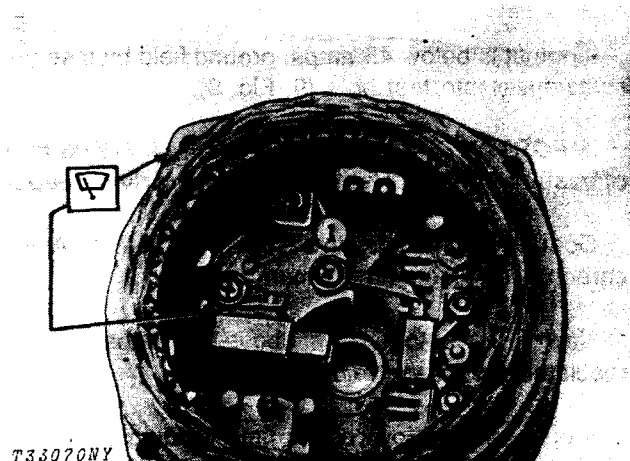

Fig. 11-Ohmmeter Connected to Brush Lead Clip and to End Frame
b. Connect ohmmeter using lowest range scale from brush lead clip to end frame (Fig. 11), then reverse lead connections.
A grounded brush lead clip can result from omission of insulating washers (1, Fig. 11) or sleeve at screw. Remove screw to inspect sleeve. If satisfactory, replace regulator.
The regulator must be checked with an alternator that is in good condition. Connect voltmeter (with ± 0.1 volt accuracy) to the alternator output terminal (BAT) and a good ground (Fig. 11). With charged batteries and the regulator brought to operating temperatures, the voltage should be as shown for the temperatures in the chart.